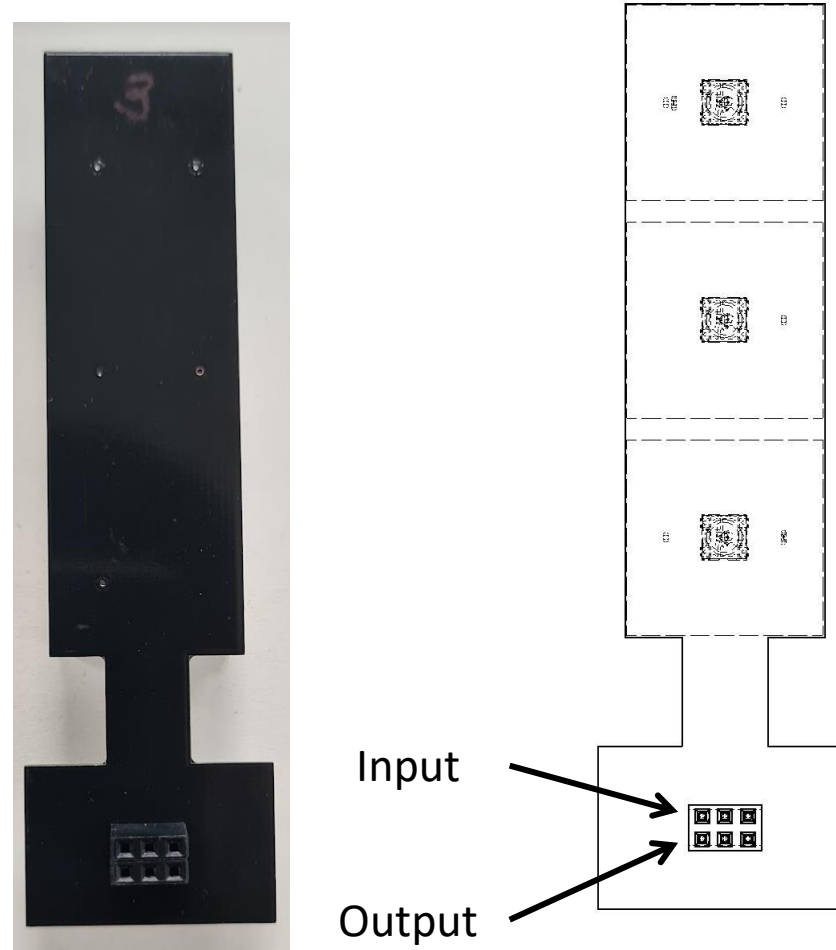

Figure 4: Traffic
- The input and output of the daisy chain connection is shown in Figure 4.